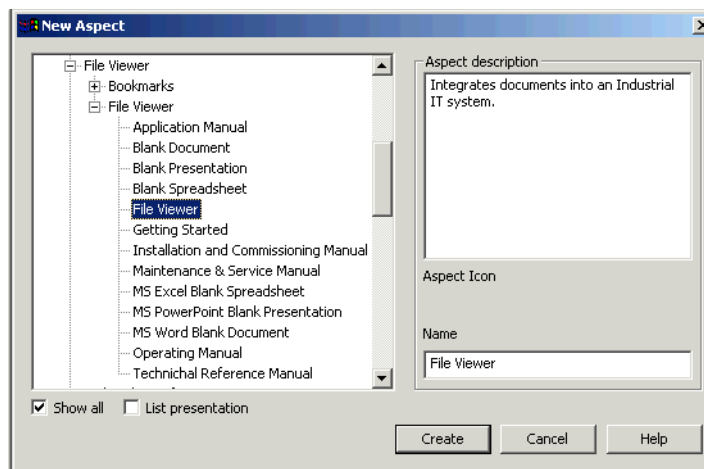

Figure 224. File Viewer Aspect
2. Select **New Aspect** from the object's context menu and add a File Viewer aspect, see Figure 224.